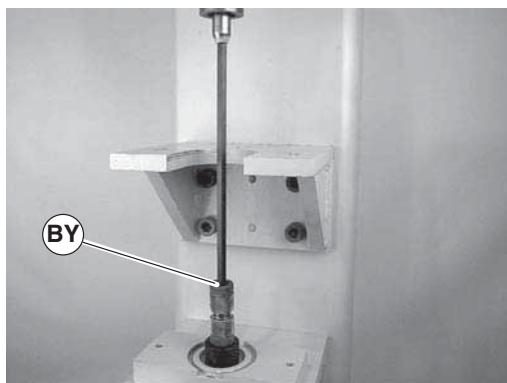

**Figure 60**
4. Orient bearing anvil/sleeve removal tool (25-09, part of tool kit 4500) (Figure 60, item CB) with cavity facing up and place pulley onto tool.